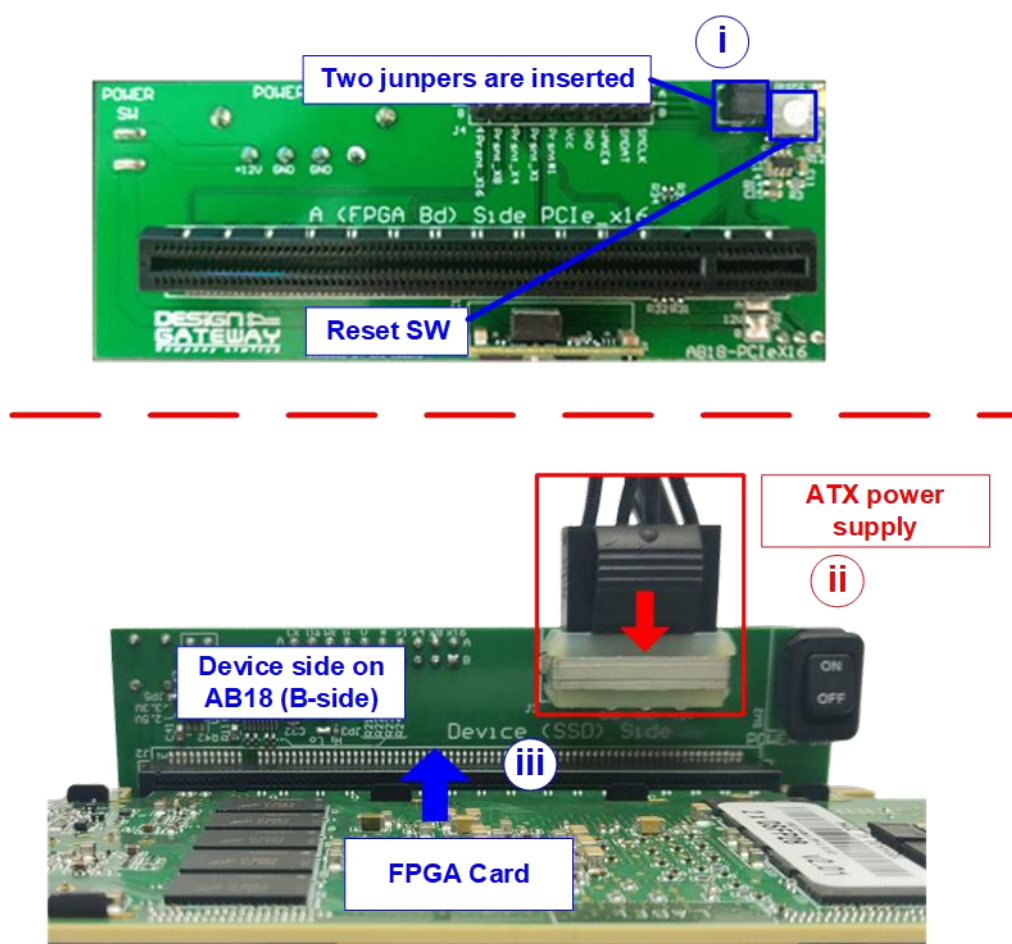

Figure 2-4 Set up AB18-PCIeX16 Connection for FB2CGHH@KU15P card
- iii) Connect PCIe connector on FPGA board to Device Side (B-Side), as shown in Figure 2-4